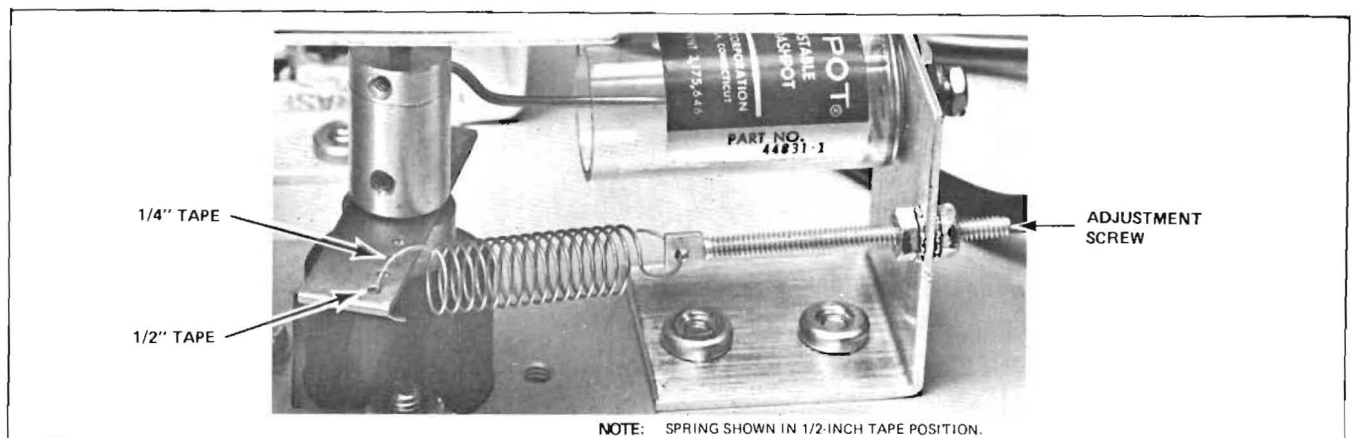

Figure 7-9. Constant Tension Assembly
- H. Place a tape tensiometer on the tape between head bridge and capstan. Adjust spring on constant tension, Figure 7-9, to obtain proper tension as shown below: